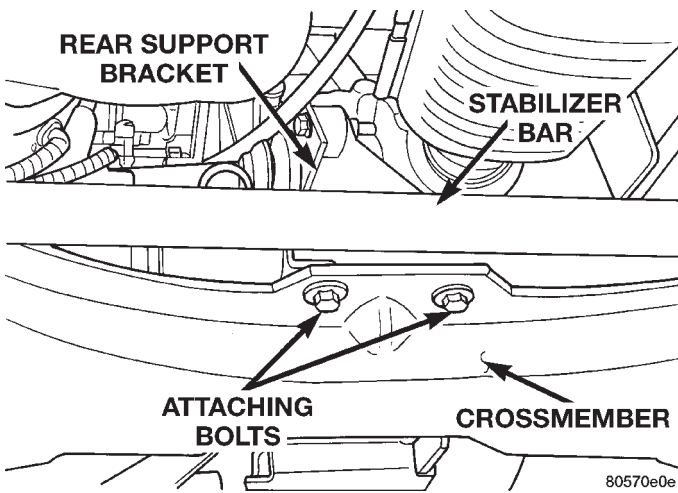

Fig. 15 Rear Support Bracket Attachment To Crossmember
(15) Remove the 2 attaching bolts from the rear support bracket (Fig. 15) at the rear of the front suspension crossmember.
(7) Install the 2 bolts attaching the rear support bracket, for the under engine support bracket (Fig. 15), to the rear of the front suspension crossmember. Tighten bolts to a torque of 75 N·m (55 ft. lbs.).